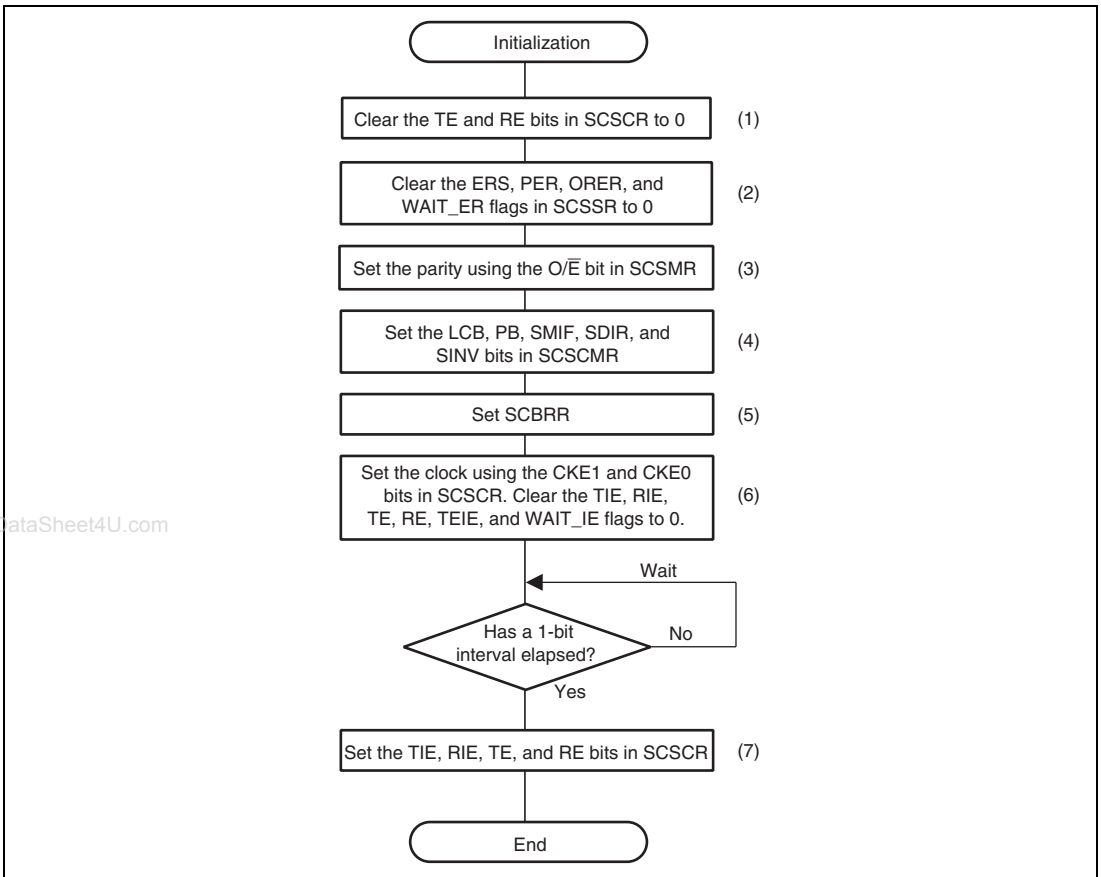

Figure 30.4 Example of Initialization Flow
Prior to data transmission and reception, the following procedure should be used to initialize the smart card interface. Initialization is also necessary when switching from transmit mode to receive mode, and when switching from receive mode to transmit mode. An example of the initialization process is shown in the flowchart of figure 30.4.
Step (1) to step (7) of figure 30.4 correspond to the following operation.